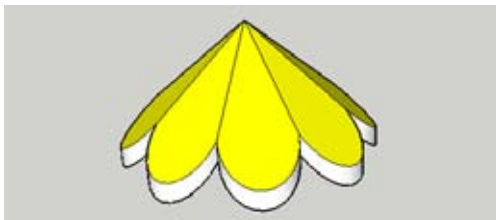

Figure 5-86
13. Rotate-copy the round flap around seven times and erase extra edges (Figure 5-86).